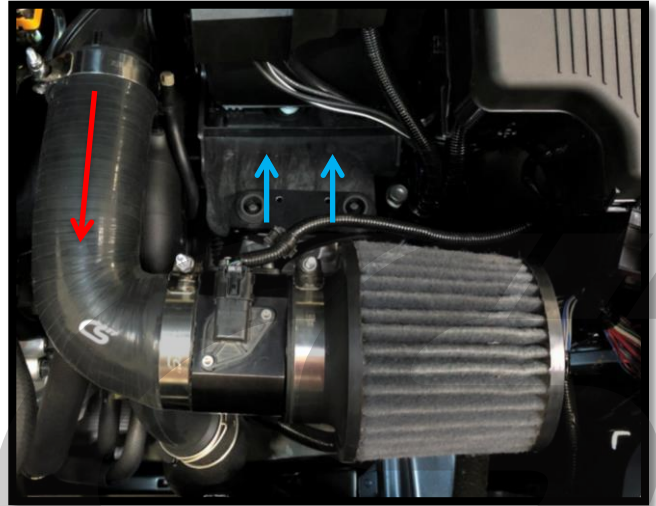

Figure 5b
- c) Pull the CS SRI silicone free from the turbo inlet pipe by pulling in the direction of the red arrow in Figure 5b.
- d) Remove the CS SRI from the vehicle as a unit by pulling the support bracket upwards and off the two mounting pegs. Pull in the direction shown with blue arrows in Figure 5b. Place the CS SRI to the side for the time being.